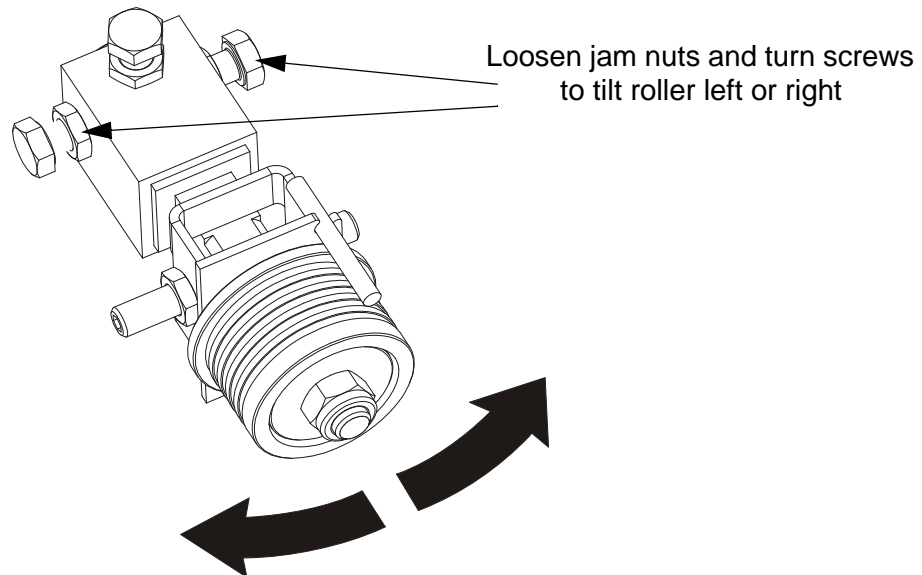

FIG. 5-33
**See Figure 5-33.** Loosen the jam nuts on the left and right horizontal tilt adjustment screws. To tilt the roller left, loosen the right screw and tighten the left screw. To tilt the roller right, loosen the left screw and tighten the right screw. Tighten the jam nuts and